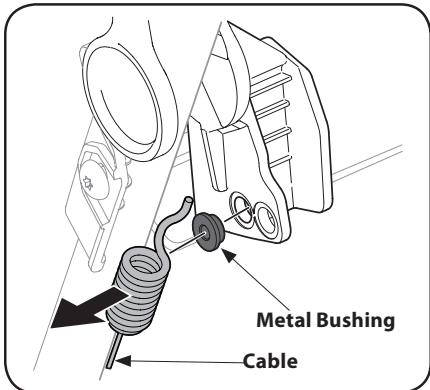

Figure 4-4
- Unhook the cable and remove the metal bushing from the plastic drive handle. See Figure 4-4.